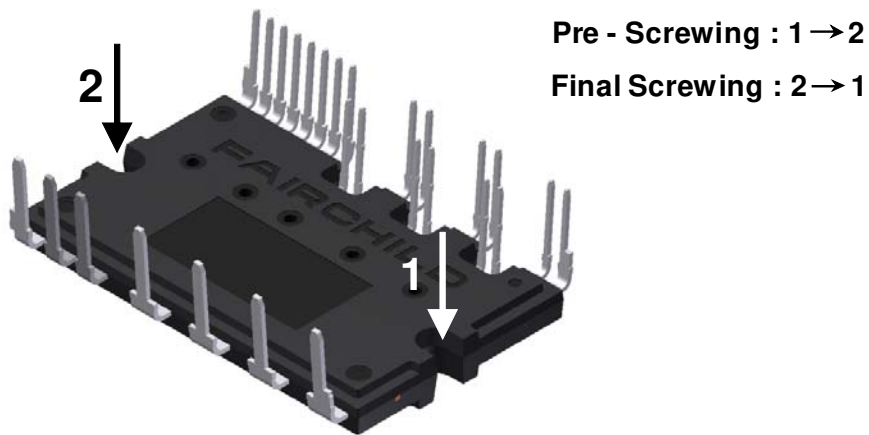

Figure 10. Mounting Screws Torque Order
| | See Figure 10 | Recommended 7.1 kg • cm | | | kg • cm |
- 12. Avoid one-sided tightening stress. Figure 10 shows the recommended torque order for mounting screws. Uneven mounting can cause the DBC substrate of package to be damaged. The pre-screwing torque is set to 20 ~ 30% of maximum torque rating.